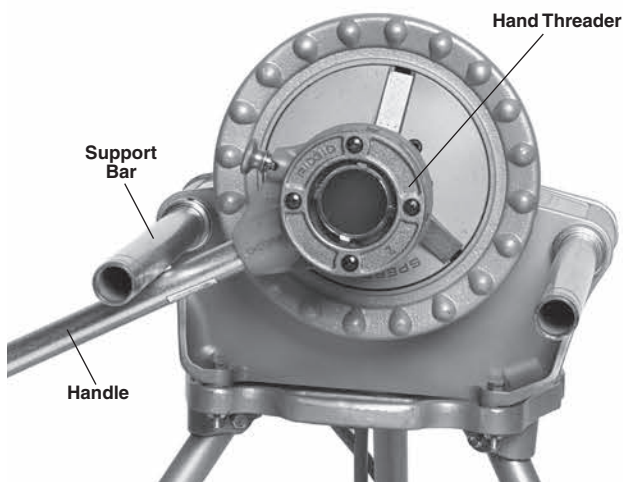

Figure 20 – Removing Die Head From Threaded Pipe (Handle Against Bottom of Bar.)
- c. Fully extend the switch side support bar and raise threader handle against bottom of the bar. Hold the end of threader handle with left hand. To avoid pinch point injuries, do not place hand or fingers between the threader handle and support bar. Keep handle in contact with the support bar (see *Figure 20*).
1. Hold the threader handle against bottom of switch side support bar. To avoid pinch point injuries, do not place hand or fingers between the threader handle and support bar. See Figure 20 for proper operating position.